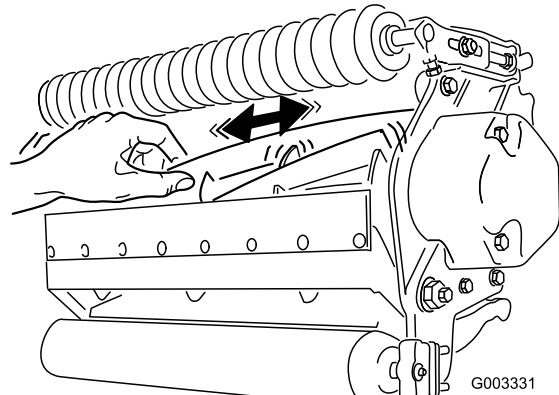

Figure 23
2. Using a rag or thickly padded glove, hold on to the reel blade and try to move the reel assembly side to side (Figure 23).